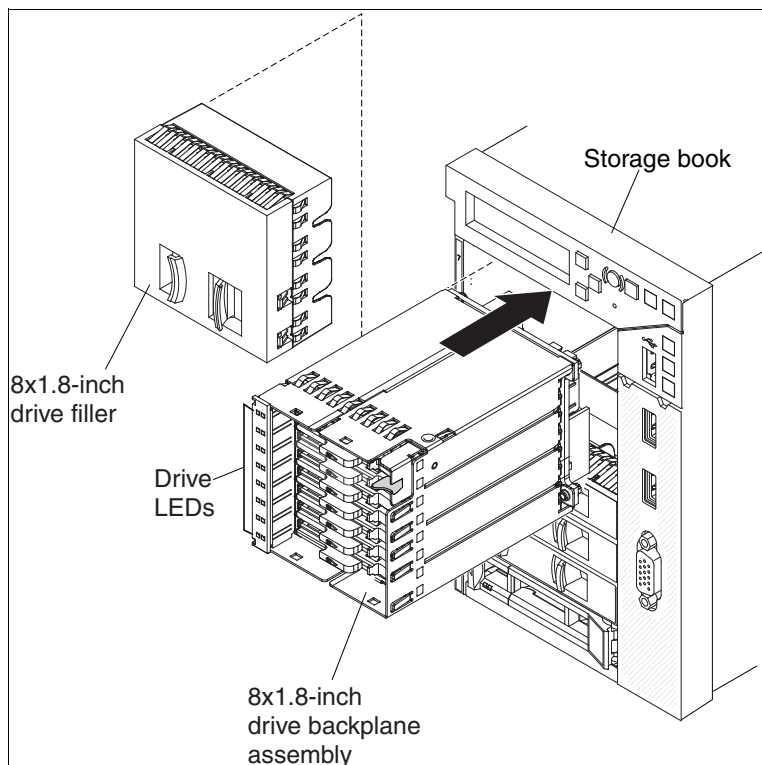

Figure 21 Drive filler
- ▶ With only four drives installed, it is mandatory to leave the top filler (Figure 21) in place for cooling and EMC reasons.